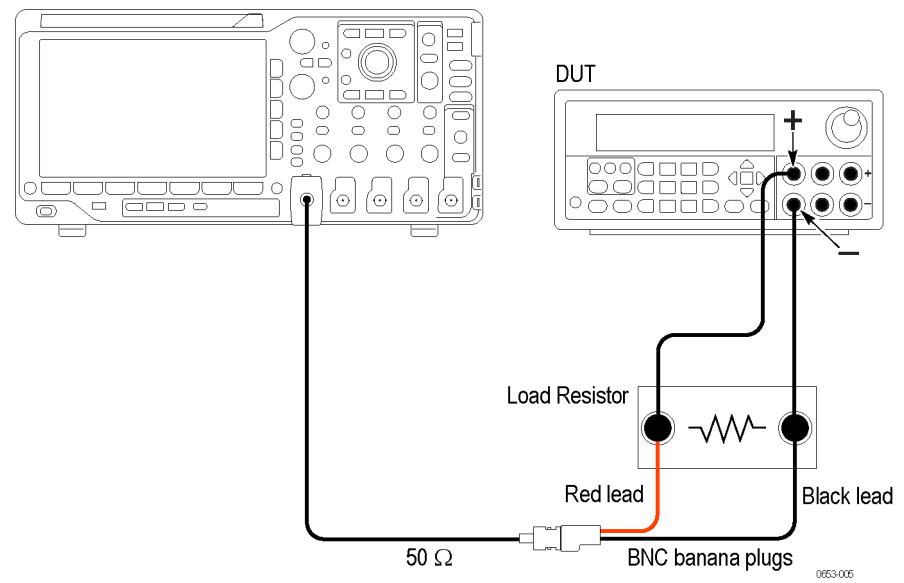

Figure 8: 20 MHz voltage noise test setup. The channel 1 test setup is shown.
4. Set up the equipment as shown. (See Figure 8.)